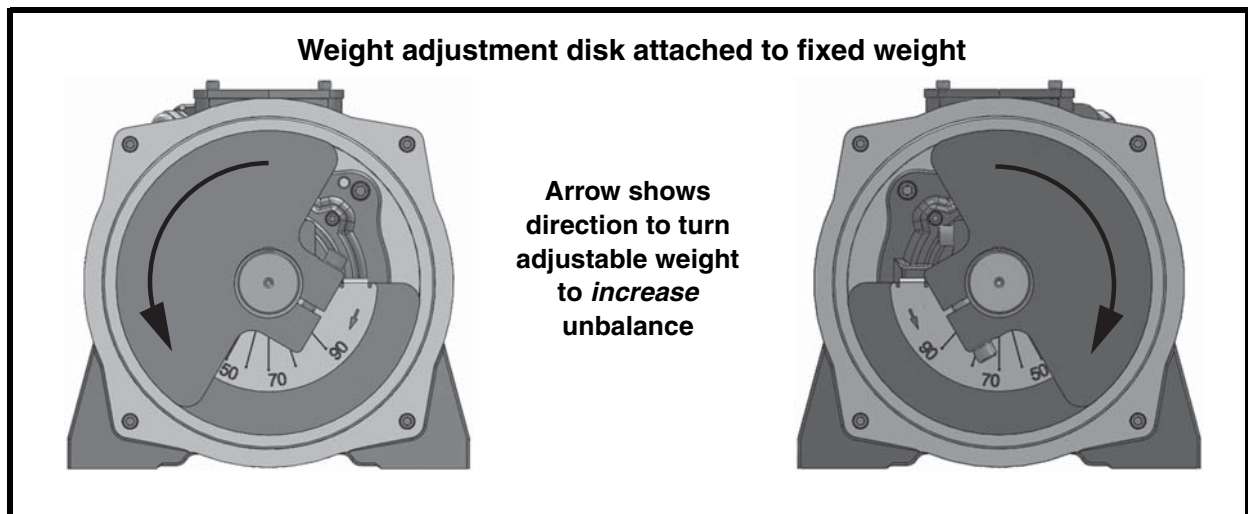

Figure 10. Adjustable Weights Set at 50%
4. See Figure 10. Rotate adjustable eccentric weight to proper setting. To produce more force, move weight to higher setting (i.e., higher number). When set, tighten socket head cap screw according to Table II.